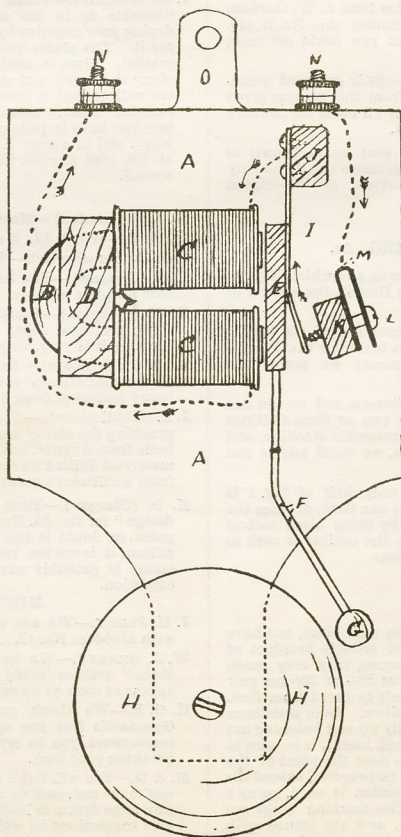
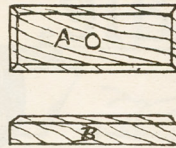

FIG. 1.
FIG. 4.
- R. R. H.—(1) Your suggestion, though good, is hardly practicable. (2) The "Star" saw is better for the Treadle Machine than for the Hand Frame; we prefer the "Record" for the latter.
- C. C. S.—On the St. Paul's Design only half of Fig. 1 is shewn. You can either cut two at one time, or trace the diagram on to two pieces of wood by using black carbon paper. There are five steps; trace the outline of each to separate pieces of wood, and then cut.
the base of the Bell, to which all parts are fixed. To make this base procure a piece of  $\frac{1}{2}$  inch mahogany 6 inches long by 4 inches wide; this will allow plenty of room for fixing the cover. The corners can now be cut out with a fretsaw, as shown in Fig. 1, A. The base can then be varnished or polished.
Having, we hope, made this most important matter clear, we will proceed to wind the wire on the bobbins. Take the stick (now made into a windlass) and slip one of the bobbins on tight; then wind it as full and as even as possible with the wire, leaving about 6 inches of unwound wire at either end. The winding will be all the better if a coat of varnish is given to each layer; this will improve the insulation and keep the wire tight. The other bobbin should be wound exactly in the same manner. Now slip the bobbins on the magnet legs so that the beginnings of the coils are the same way. This is shown in Figs. 1 and 3. The starting ends must be soldered close together, and the other ends of the wire wound round a pencil to form a helix. The complete electro-magnet should then have a nice coat of Brunswick black; the bright ends should not be touched.
Now make a saddle of wood, of the shape shown in Fig. 4; glue the bottom piece to the base about the position shown in Fig. 1, D; then place the magnet on, put the top piece in position, and put a long screw through the lot.
clock spring must be procured and bent to the shape shown in Fig. 1, I, and at the end of the longer portion two small screws must be drilled. Take one of the pieces of platinum, beat it out flat with a hammer, and solder it about  $\frac{1}{4}$  inch from the end of the